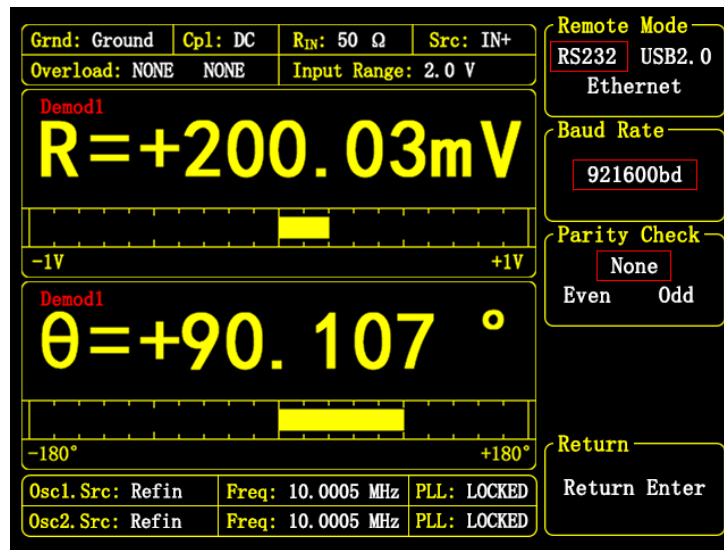

Figure 69. <Remote> submenu—<RS232> option
Select the <Remote> secondary submenu to enter it, as shown in Figure 69.
- <RS232> : RS232 serial communication interface, using a female DB9 connector. The configuration interface is shown in Figure 69.